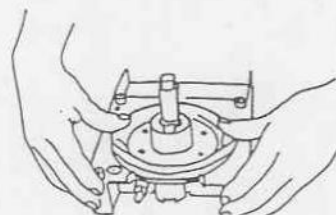

Fig. 17
- a. The hole in the diaphragm edge should encircle the nipple on the top side of the pump frame. Make sure that the edge of the diaphragm is pulled out over the extended rim all around the pump chamber (fig. 17).